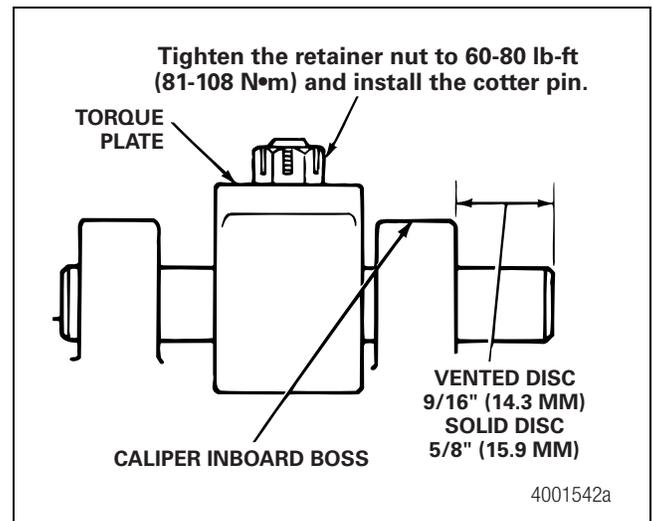

Figure 3.7
- To correctly install the slide pin, the pin must extend past the inboard boss of the caliper, as shown in Figure 3.7.
- Check for grease on the slide pin retainer threads. Wipe clean, if necessary. Tighten the nut on the slide pin retainer to 60 lb-ft (81 N•m). Figure 3.7.